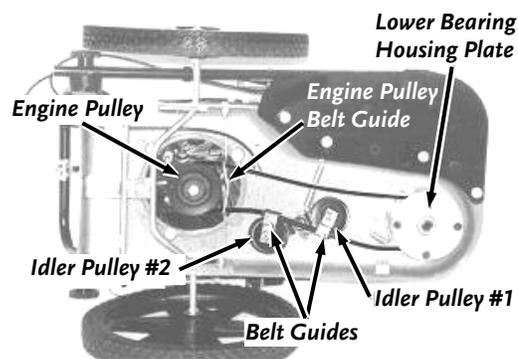

Figure 34
6. Install the new Belt. Be sure the Belt is on the inside of Idler Pulley #2, the outside of Idler Pulley #1 and correctly fitted around the Engine Pulley and in between the Engine Pulley Belt Guide (**Figure 34**).